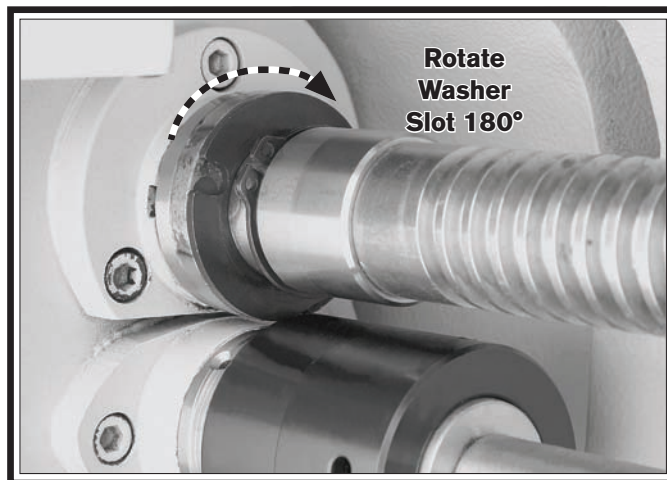

Figure 148. Shroud washer positioning.
10. With the pin completely seated in the bore and the head flush with the leadscrew shoulder, slide the shroud washer against the shoulder, then rotate the washer 180° until it covers the head of the shear pin, as shown in **Figure 148**.